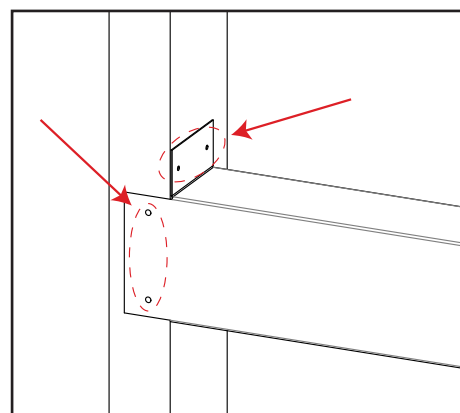

**Figure 17: Steel Stud Placement**
- Place the steel stud onto the top standoffs and slide outwards until both ends make contact with the framing studs (see Figure 17).